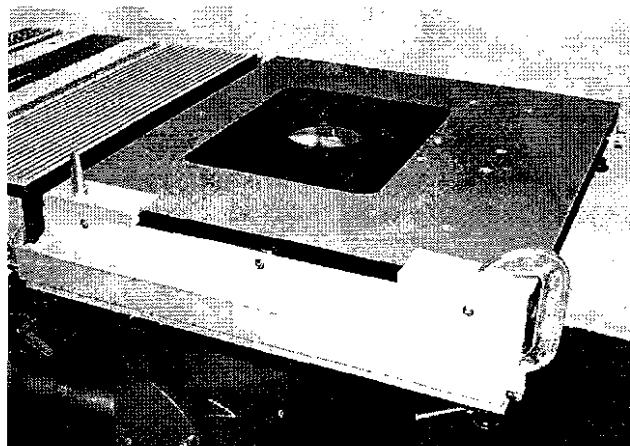

Figure 6
8. Place the two Alignment Gauges (521097), received with your MARK V, at each end of the Router Table. Use C-Clamp to hold the Gauges in place. Adjust Front Rail Assembly so that its top edge is touching the bottom edge of the Alignment Gauges. (See Figure 6)